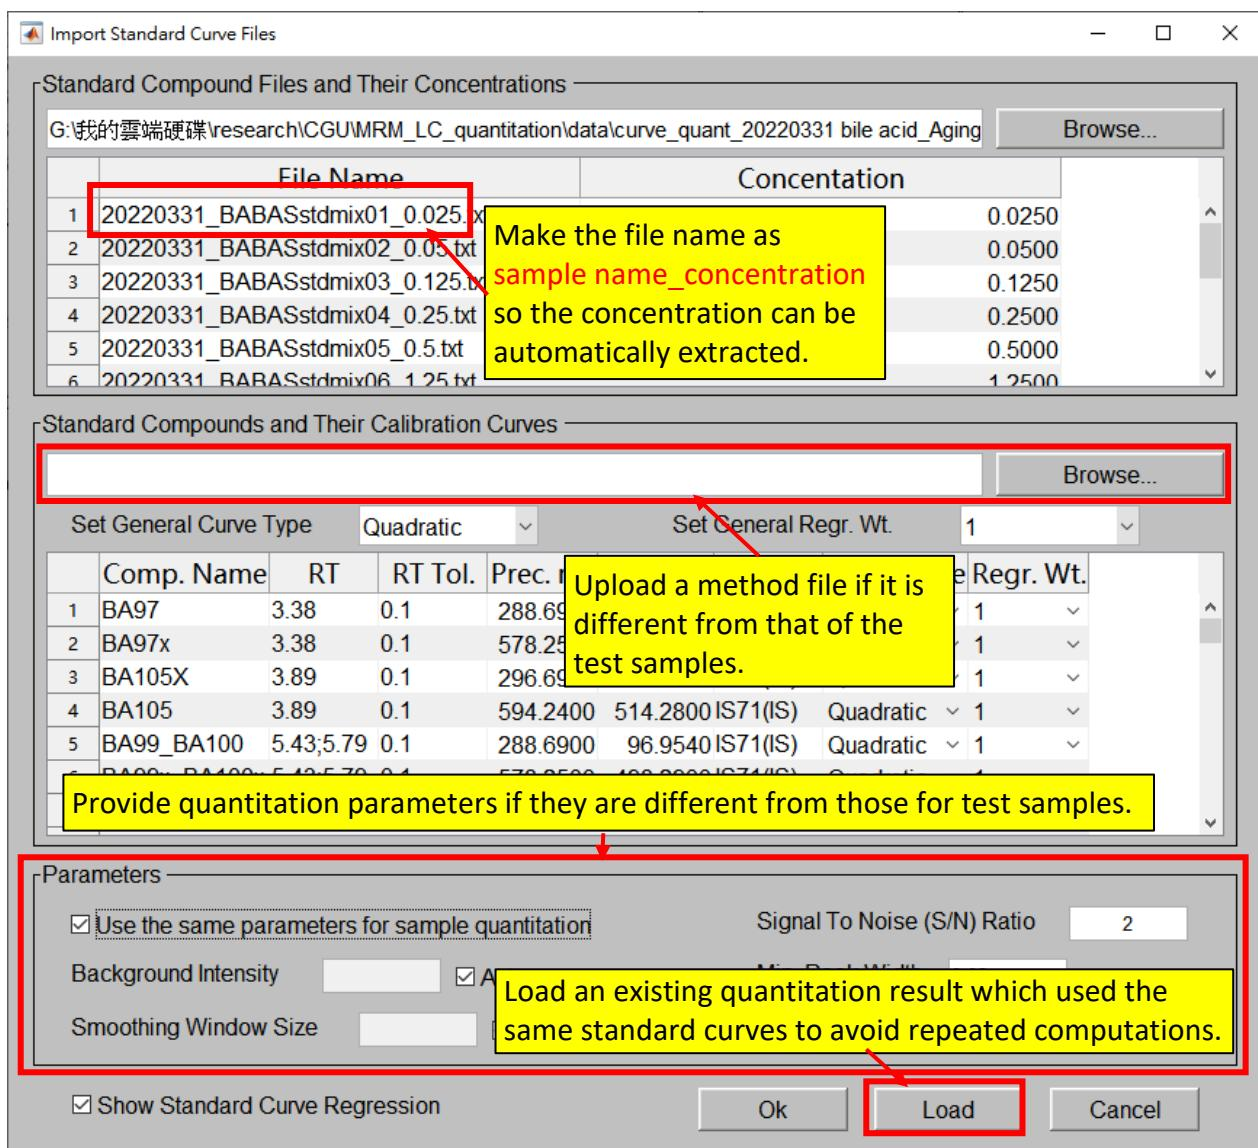
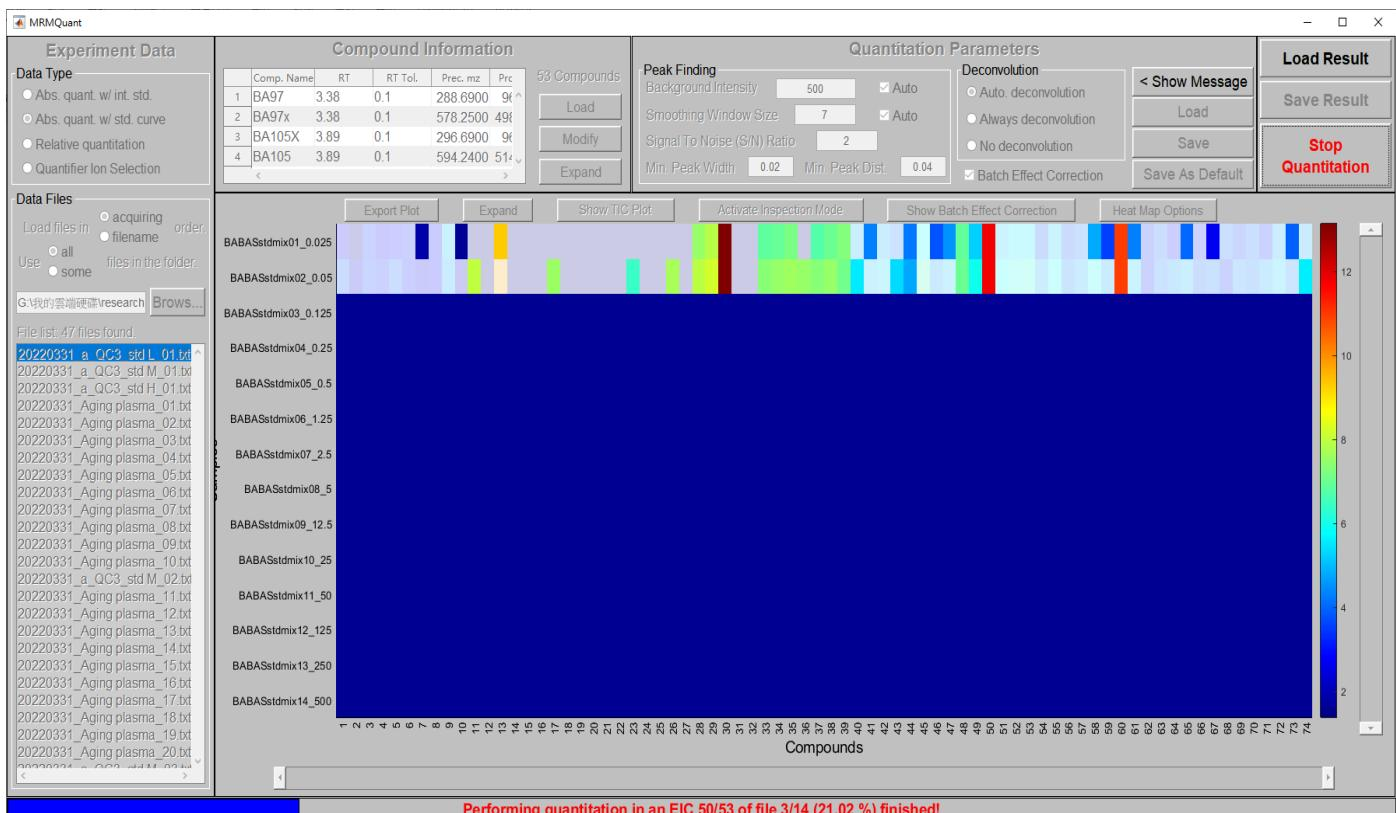
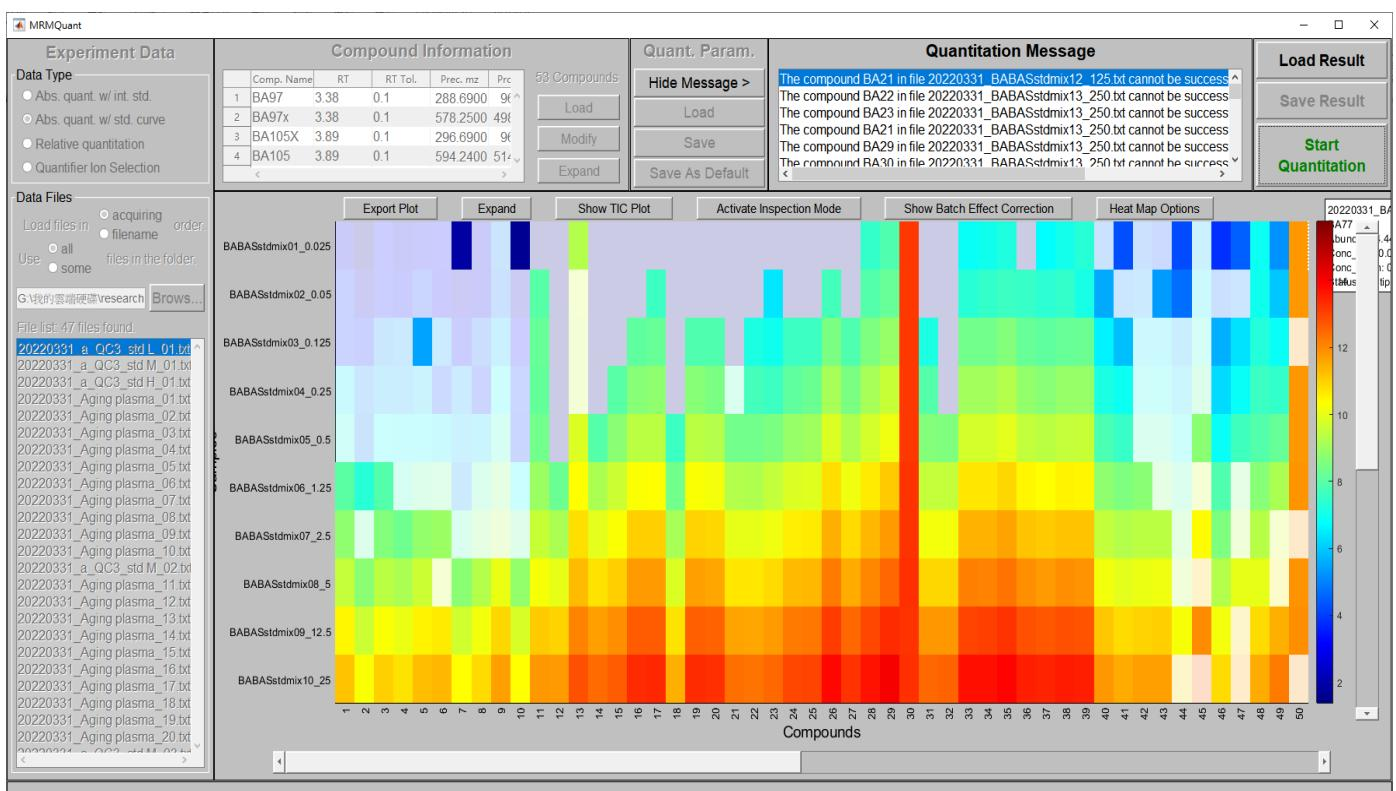

Figure 41. The “Import Standard Curve Files” window for standard curve generation.
Figure 43. The quantitation is performed on the samples for standard curve generation.
Figure 44. The quantitation result in heat map form of the data for standard curve generation.
If the user selected “Abs. Quant. w/ STD. Curve” at the Data Type, after the user clicks on the “Start Quantitation” button, the “Import Standard Curve Files” window will appear for the user to input relative information for the standard curve, as shown in Figure 41. If any quantitation result which used the same standard curves exists, the user can import the standard curve information by pressing the “load” button at the end of the window to avoid repeated computations. Otherwise, the user needs to provide (1) the sample files for the standard curve generation, (2) the method file for the targeted compounds in the sample files, and (3) the quantitation parameters in this window. Except for the first item, the latter two information can use the same ones as those for the testing sample files in steps 4 and 5. The files are suggested to be named as sample name_concentration so that MRMQuant can automatically extract the concentrations from the file names, as shown in Figure 41. Users can change curve types (quadratic or linear) and regression weights ($1, 1/x, 1/x^2$) for all compounds using the dropdown menus at the top of the “Standard Compounds and their Calibration Curve” section. These entities can also be changed for individual compound using the dropdown menus at the end of each row, as shown in Figure 42. Once all the information for the standard curve generation is provided, the user can press the “Ok” button and the quantitation process of the samples for the standard curve generation will commence, as shown in Figure 43. The quantitation result in heat map form is shown in Figure 44. Note that the cells with the 20% transparent grey mask indicate those results that require further inspection and those with white color denote saturated peaks.